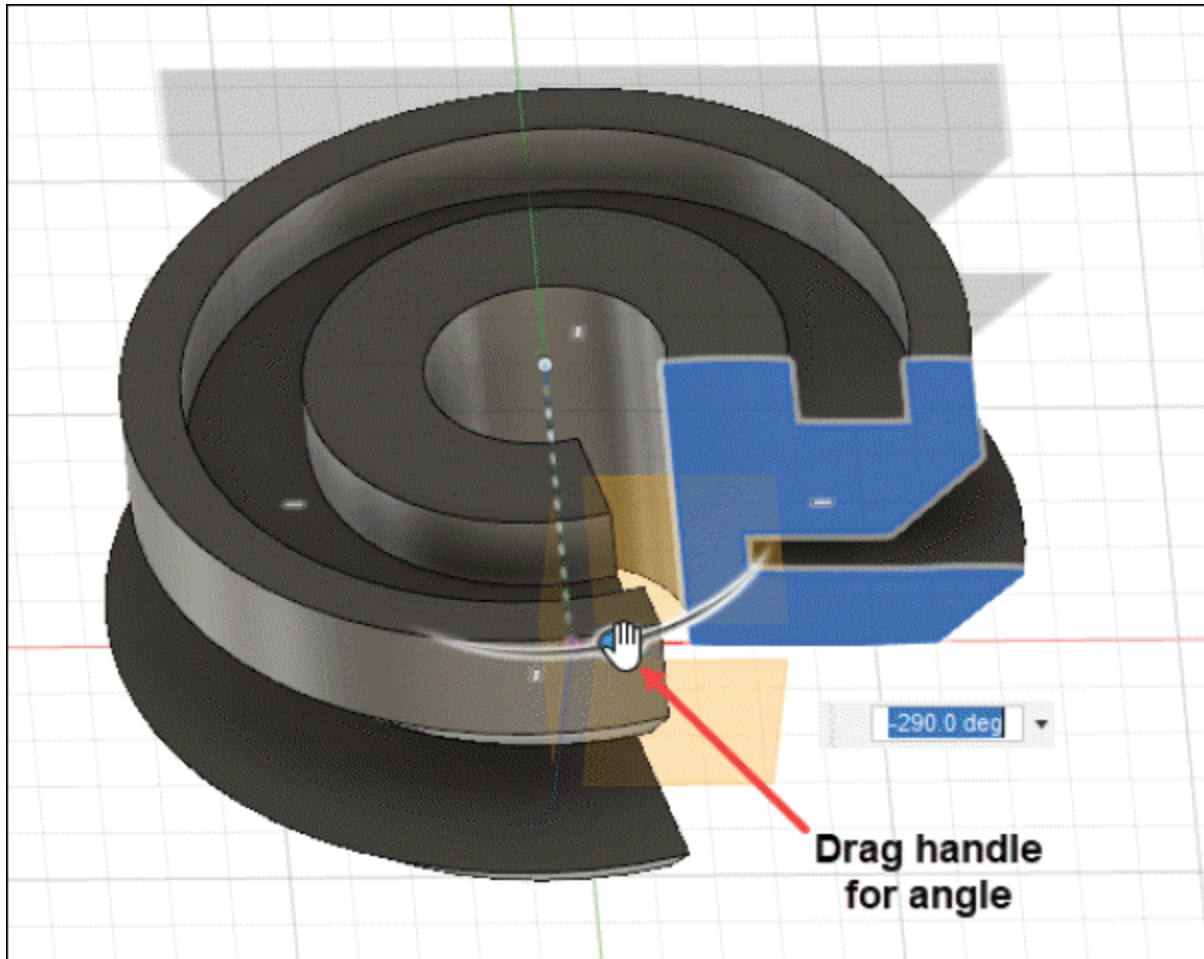

Figure-53. Moving the drag handle
- Specify desired value of revolve angle in the **Angle** dynamic input box. You can also set the value of angle by moving the drag handle; refer to Figure-53.